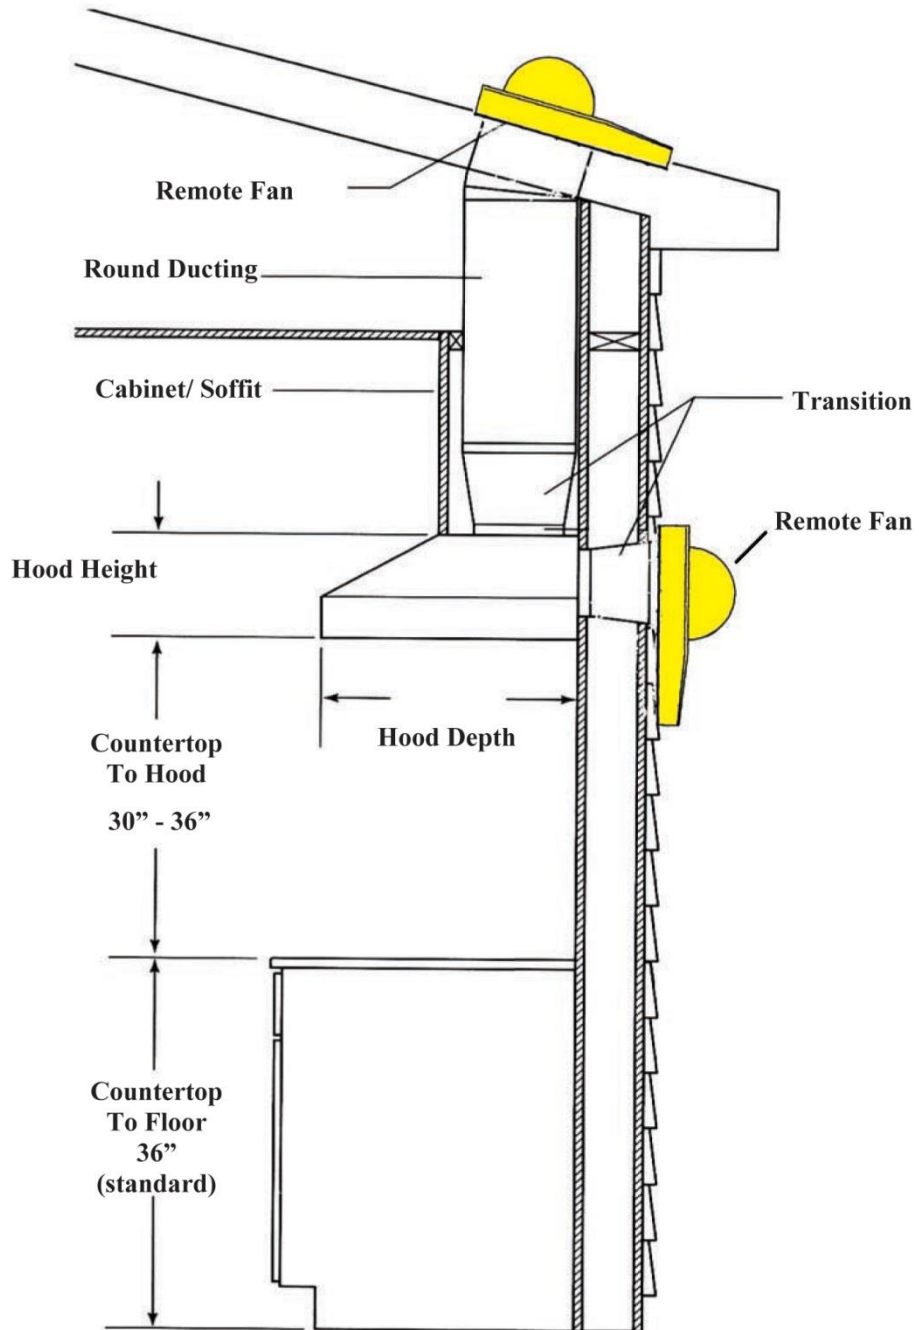

Figure 12.
2. Remove the baffle filters from hood shell. (See Figure 12)
4. Detach the transition from the hood by removing the (4) shipping screws. **DO NOT** discard these screws. These shipping screws will be needed for the reinstallation of the transition to hood.
6. Remove hood baffle filters prior to installation of hood. (See Figure 12)